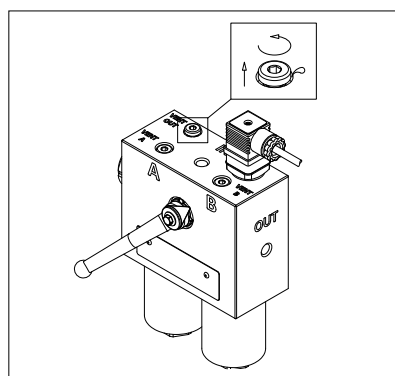

fig. 14
- (Fig. 14) Loose the “Vent OUT” breather plug by a maximum of one turn